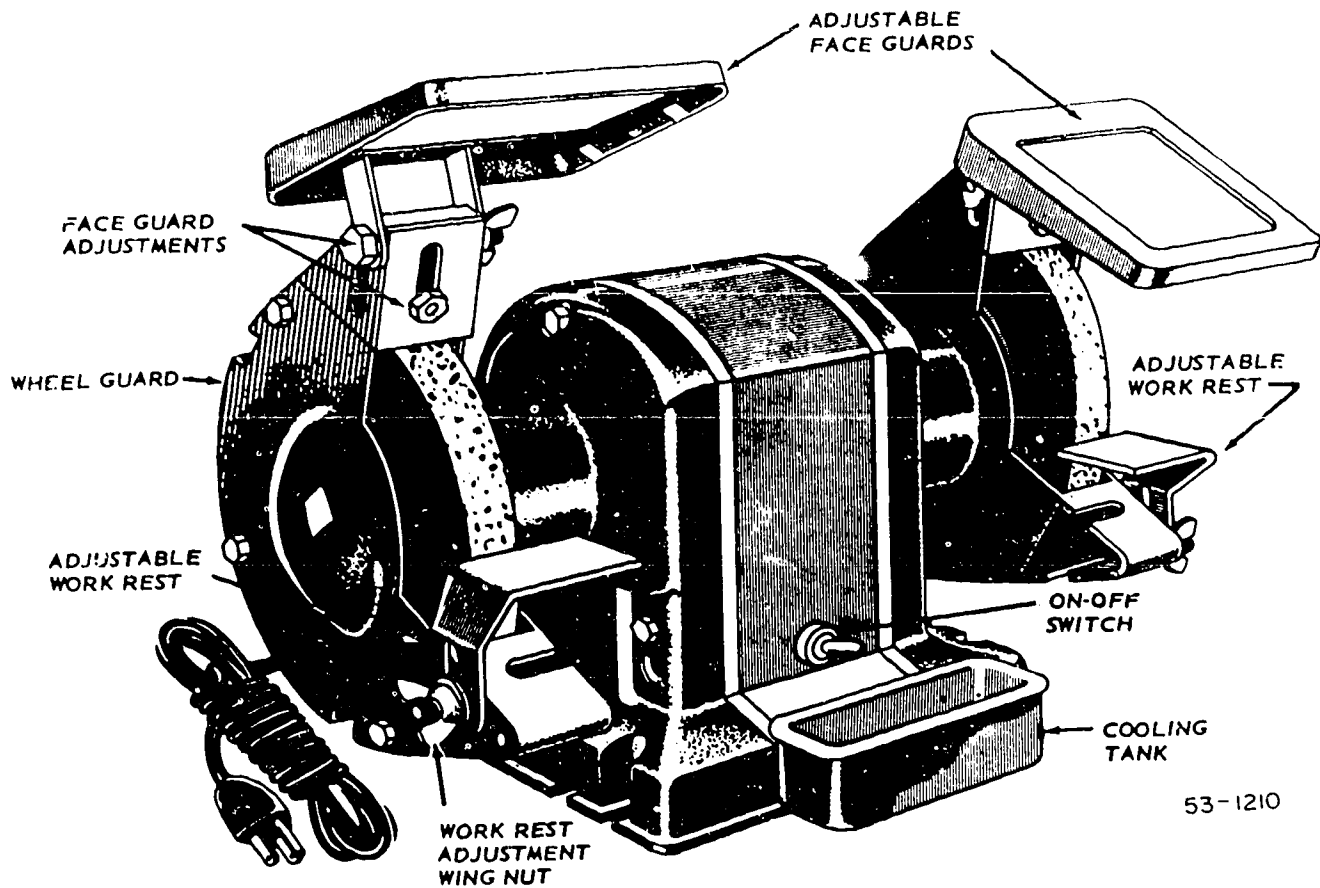

Figure 1-26. Bench grinder.
**Grinders.** Electrically driven grinders, such as that illustrated in figure 1-26, may be attached to workbenches or mounted on floor stands. These grinders should be equipped with eyeshields, wheel guards, work rests, power cord with ground, and good abrasive wheels. They normally have medium and fine abrasive wheels—the medium for heavy cuts and the fine for finish work. Bench grinders are usually equipped for grinding twist drills, chisels, and other small jobs. The cooling tank is filled with water so that the object being ground can be kept cool.